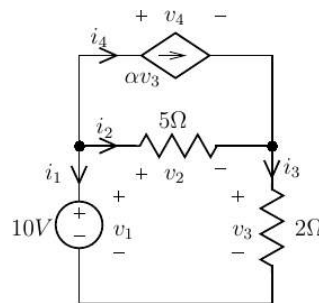

Figure 2: $\alpha = 0.5$
- (b). Explain how ‘damping’ can be used to improve convergence in nonlinear equations solutions using Newton-Raphson method. (4)
12. (a). For the circuit shown in Fig. 2, formulate the Sparse Tableau Analysis (STA) matrix from the fundamental equations. Take $\alpha=0.5$. (10)